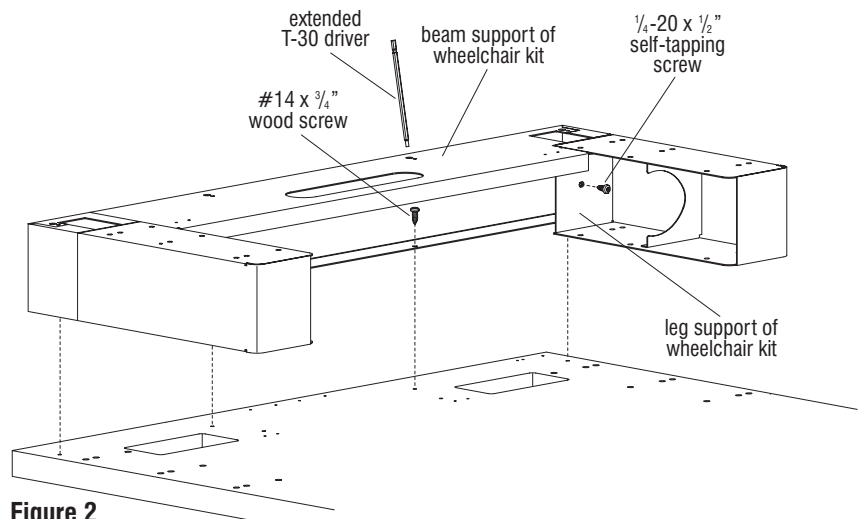

Figure 2
5. Using the four #14 x 3/4" wood screws from the beam hardware kit, mount the wheelchair kit assembly to the underside of the worksurface using the extended T-30 driver through the pass-through holes in the beam support of the wheelchair kit assembly (Figure 2).
6. At each side of the wheelchair kit, secure the leg support to the beam support as illustrated using one 1/4-20 x 1/2" self-tapping screw from the wheelchair hardware kit (Figure 2).